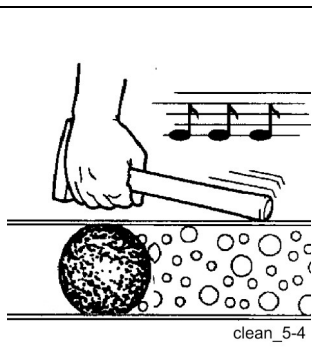

Fig. 245 Dull sounds
- If there is still concrete in the line at this point, the tapping will produce a deep, dull sound **(Fig. 245)**.